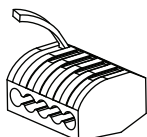
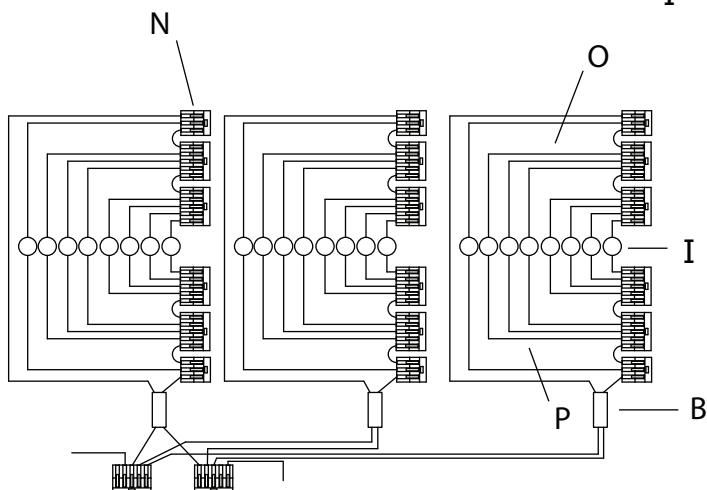

Fig. 2
Fig. 3
- a. Connect the transformer's (B) live wire (black) to the live outlet box wire.
- d. Carefully place connections in outlet box (A).
3. Attach ceiling pan (C) to the outlet box (A), secure with outlet box screws (D). Use the slots (E) and wood screws (F) to secure the ceiling pan into the ceiling joists.
4. Screw the safety cable couplings (G) to the short studs (H) on the ceiling pan (C).
5. Feed the power cords (I) through the bushings (J) on canopy (K).
6. Determine the height at which the fixture is to be hung. Use the screwdriver (L) to loosen the set screw (M). Adjust the cord (I) to the desired length. Tighten the set screws to set.
7. Connect the fixture wires to the lever nuts (N) by pulling up on the lever for an empty slot (Fig. 2), inserting the wire, and pushing the lever back down to lock. The white inner conductor (O) and black outer conductor (P) on each cord (I) must be connected to separate lever nuts, as shown (Fig. 3).
8. Reserve transformers (B), extra cords (I) and lever nuts (N) in canopy (K).
9. Attach canopy (K) to ceiling pan (C), secure with finials (Q).